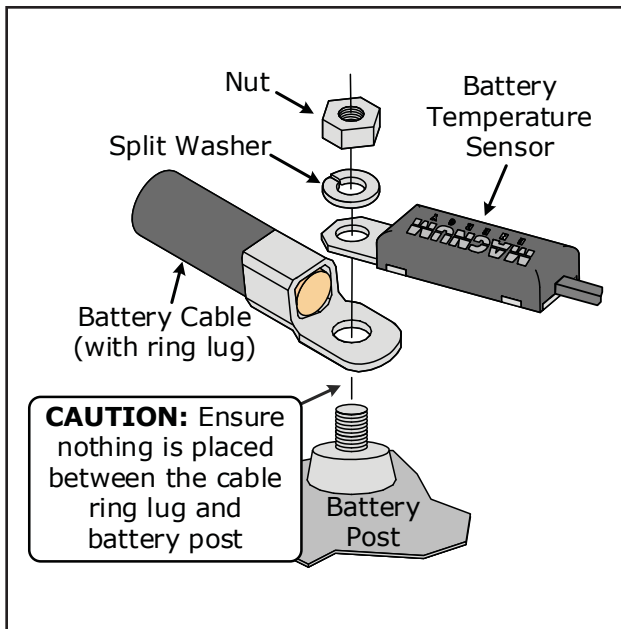

Figure 2-5, Battery Hardware Installation
Refer to Figures 2-5 and 2-6 for the correct way to connect the DC cables and to stack the hardware. Tighten the DC cable connections from 10 to 12 lb f (13.6 to 16.3 Nm).
1. Attach the ring terminal end of the Battery Temperature Sensor (BTS) to the negative battery terminal (see Figure 2-5 for proper connection to the battery terminal).
Ensure the DC wire connections (on the batteries, inverter, and DC circuit breaker) are flush on the surface of the DC terminals, and the hardware (lock washer and nut) used to hold these connections are stacked correctly (see Figures 2-5 and 2-6). Verify all DC connections are torqued from 10 to 12 ft lbf (13.6 to 16.3 Nm).